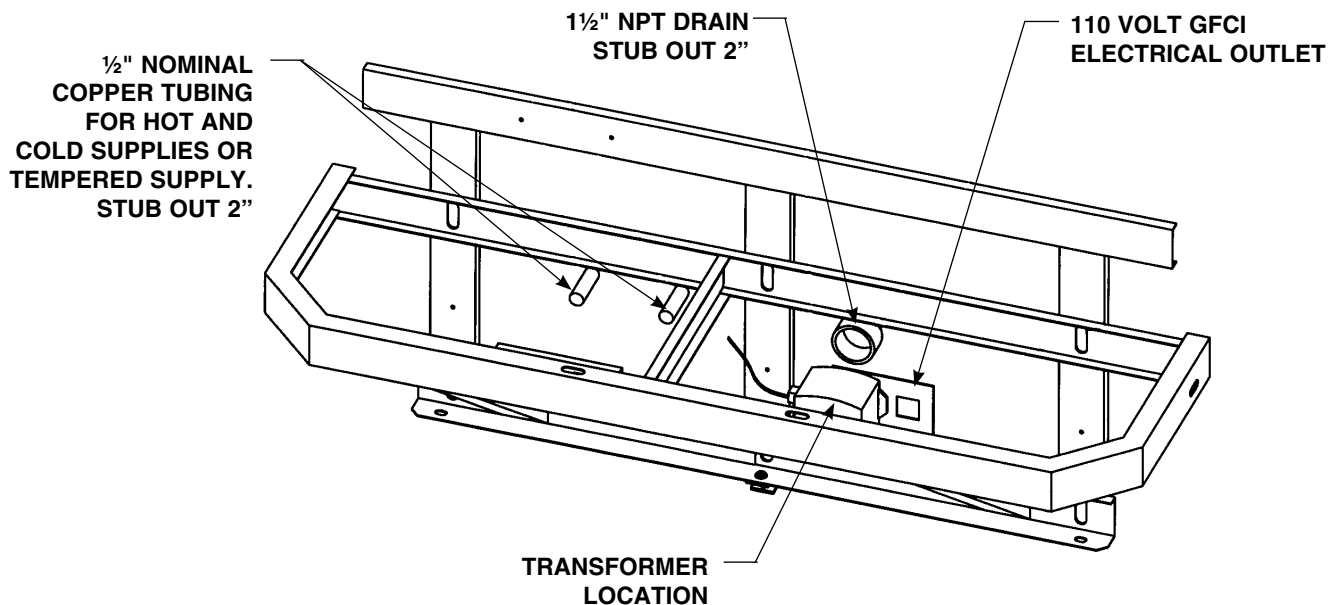

Figure 2
NOTE: See Figure 1 (below), 1a, 1b (for TAS on page 6) and Figure 2 (on page 7) when roughing in the MG-2/TT Express®.
1. Install a 110 volt GFI protected electrical outlet per local code at the location shown in Figure 2.